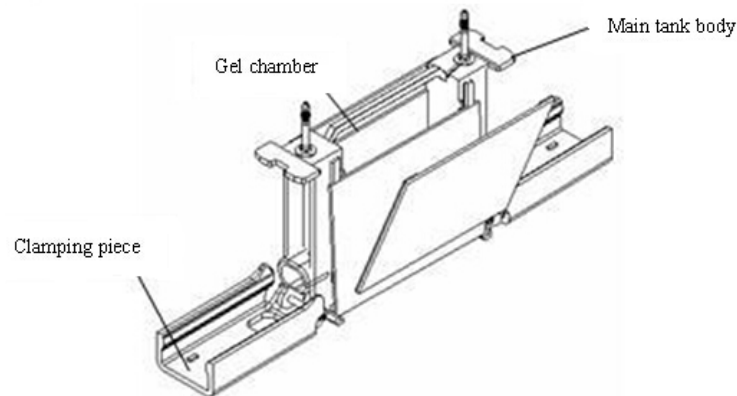

Figure 3
2. Then fasten the clamping plate as shown in figure 3.